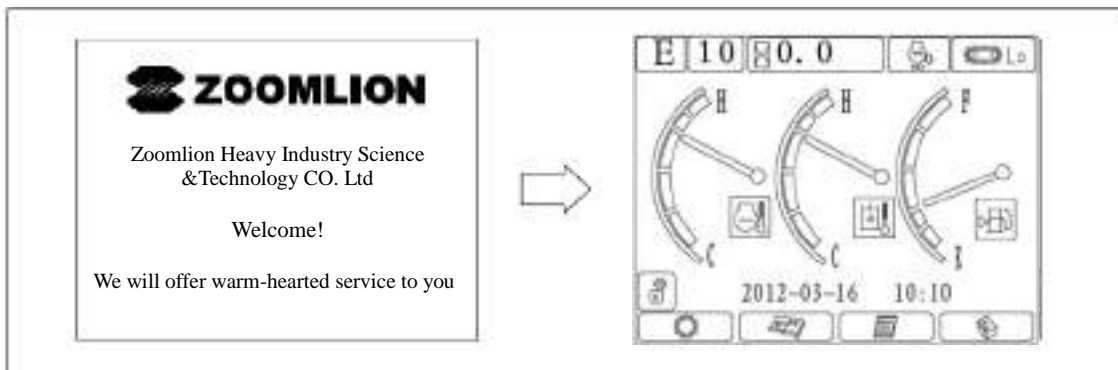

Figure 3-3 Menu for starting the instrument
a) Startup of the instrument: turn the key switch to the ON position and the display starts to initialize into the standard interface, as shown in Figure 3-3.